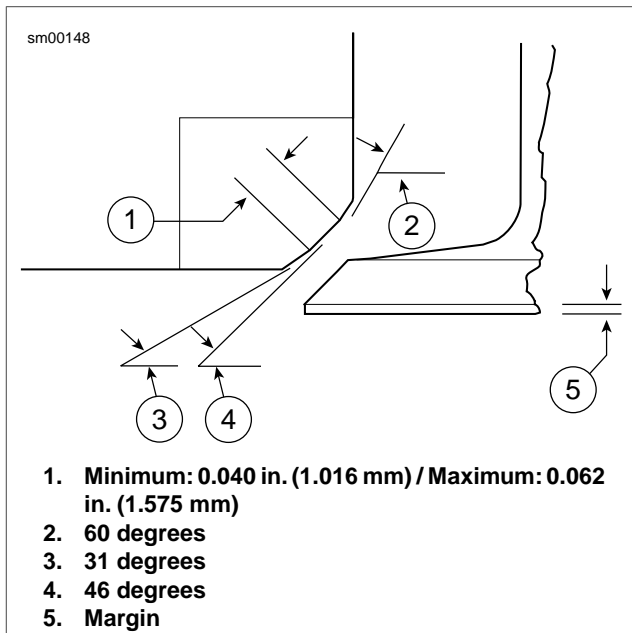

Figure 3-96. Valve and Seat Dimensions
- Do not remove any more metal than is necessary to clean up and true the valve face. Removing metal reduces the service life of the valve. The amount of grinding needed to retrue the valve is a clear indication of its condition. Discard the valve if it cannot be quickly refaced while maintaining a good margin. See Figure 3-96. Valves that do not clean up quickly are either warped, excessively worn or too deeply pitted to be used.